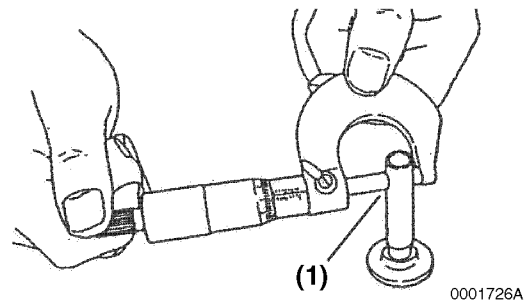

Figure 6-63
2. Measure the outside diameter of the tappet stem (**Figure 6-63, (1)**). See *Tappet on page 6-14* for the service limit.